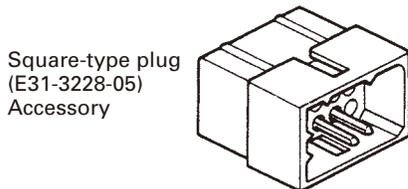

Fig. 1-1
1. Remove the connector with jumper from the external speaker connector on the rear panel of the radio. (Fig.1-1)